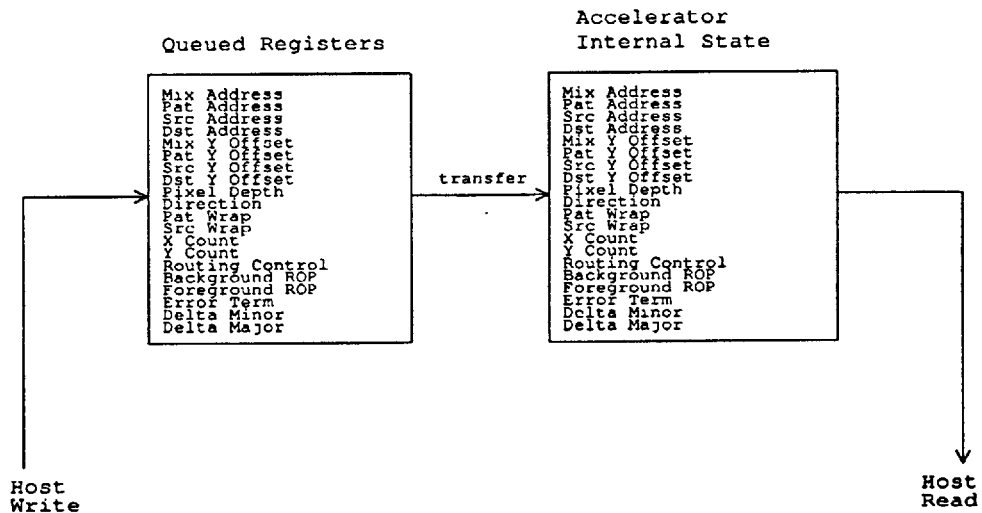

Figure 2.12-2 ET4000/W32p Queued Registers and ACL Internal State
1. 4/11/94 - Figure 2.12-2 ET4000/W32p Queued Registers and ACL Internal State found on page is incorrect. The correct figure appears below.